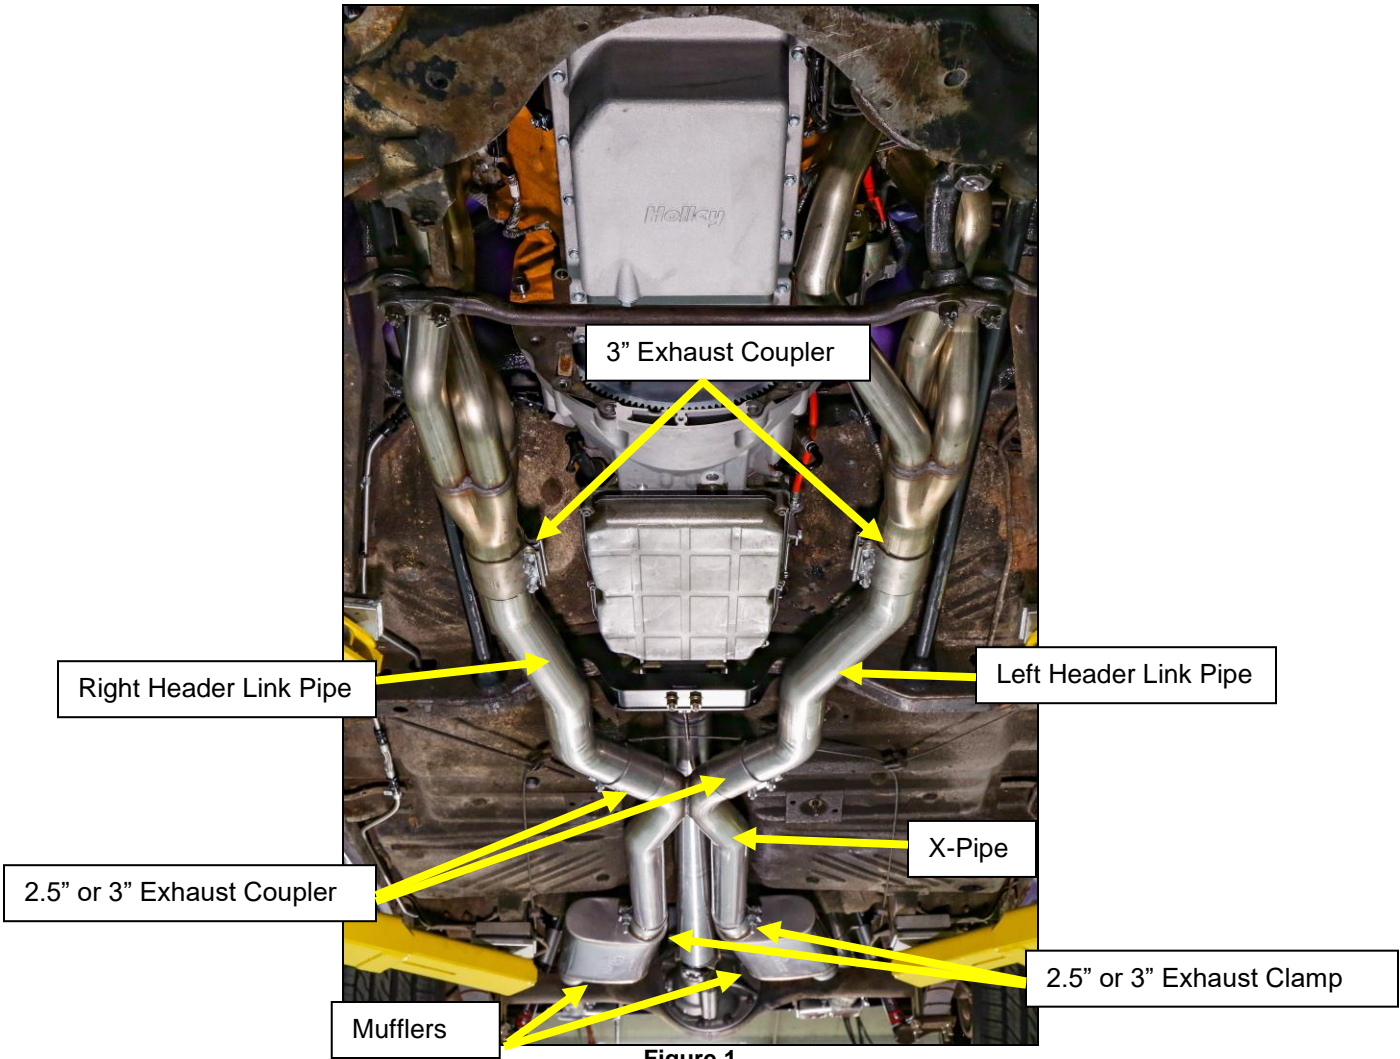

Figure 1
3. Align the 3" exhaust coupler with a 50-50 split over the header collector and the header link pipe and tighten the coupler to allow for adjustment of the link pipe (**Figure 1**).
12. Install the mufflers onto the X-pipe outlet (**Figure 1**).